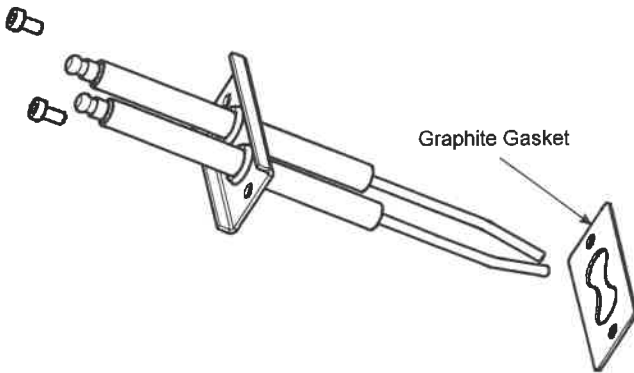

Figure 28: Ignition Electrode Assembly
- Install igniter as shown in Figure 28.